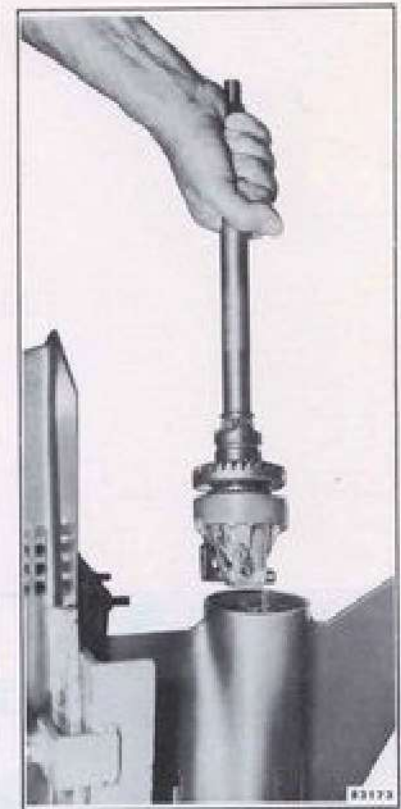

Figure 6-24. Removing Propeller Shaft
j. Remove propeller shaft, forward gear and bearing housing from gearcase as an assembly. See Figure 6-24.